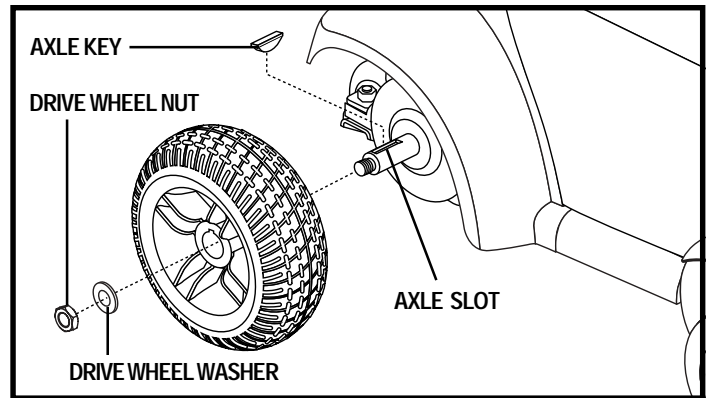

Figure 16. Select Traveller Drive Wheel
3. Remove the drive wheel nut and washer from the axle. See figure 16.